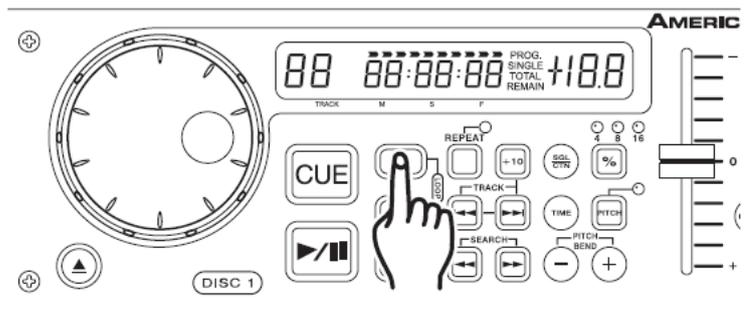

Figure 17
Press the IN button (4). This will set the starting point of the Seamless Loop (Figure 17).